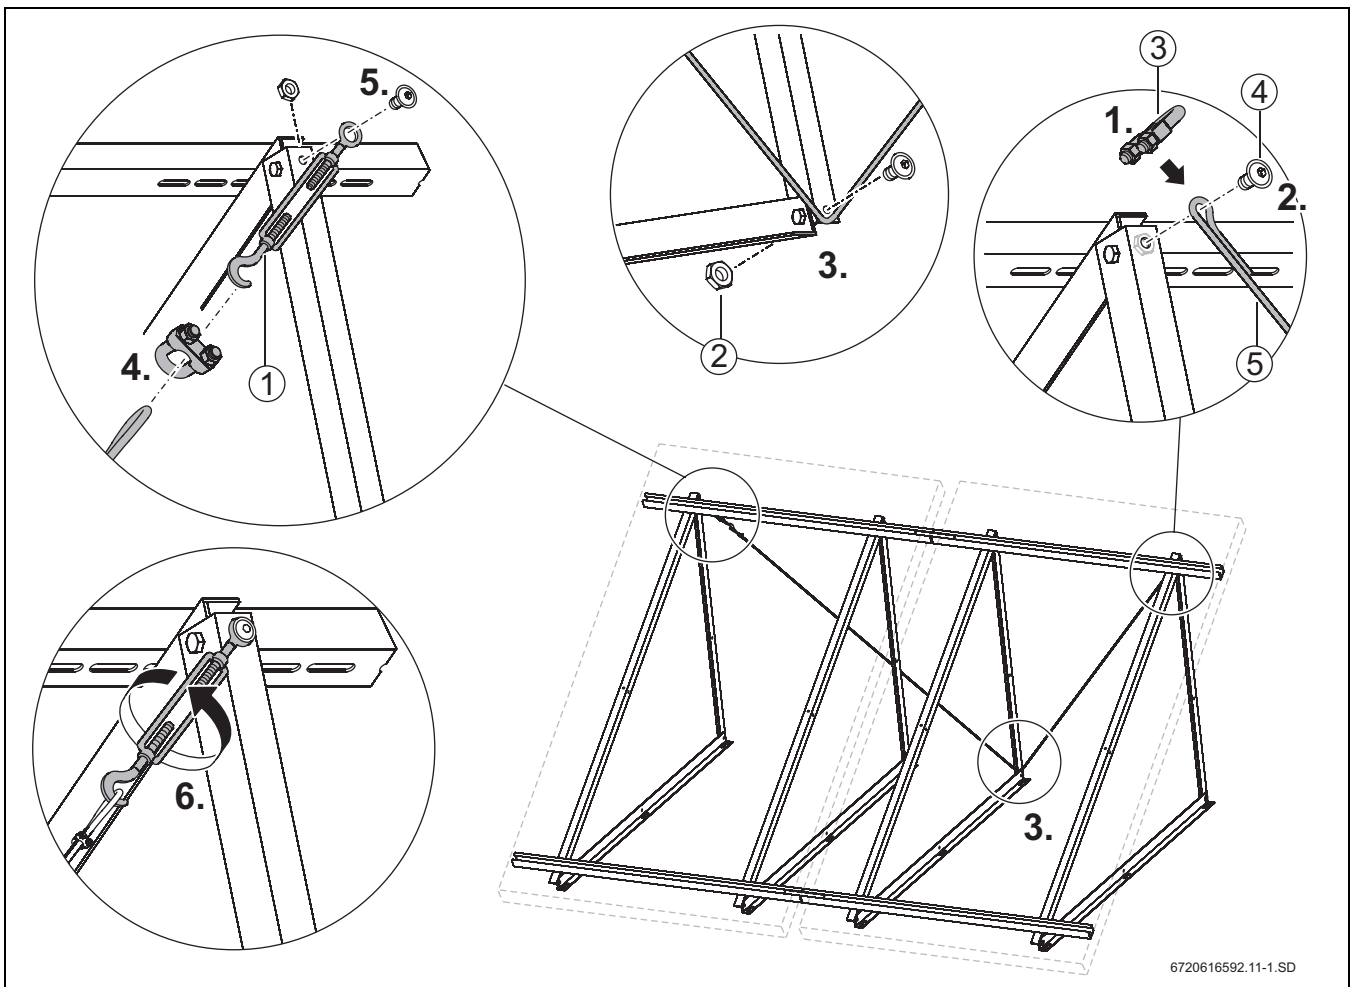

Fig. 23 Always attach the steel cable to two vertical collectors
- ▶ Ensure screw and nut (fig. 23, [2]) are sufficiently tight.